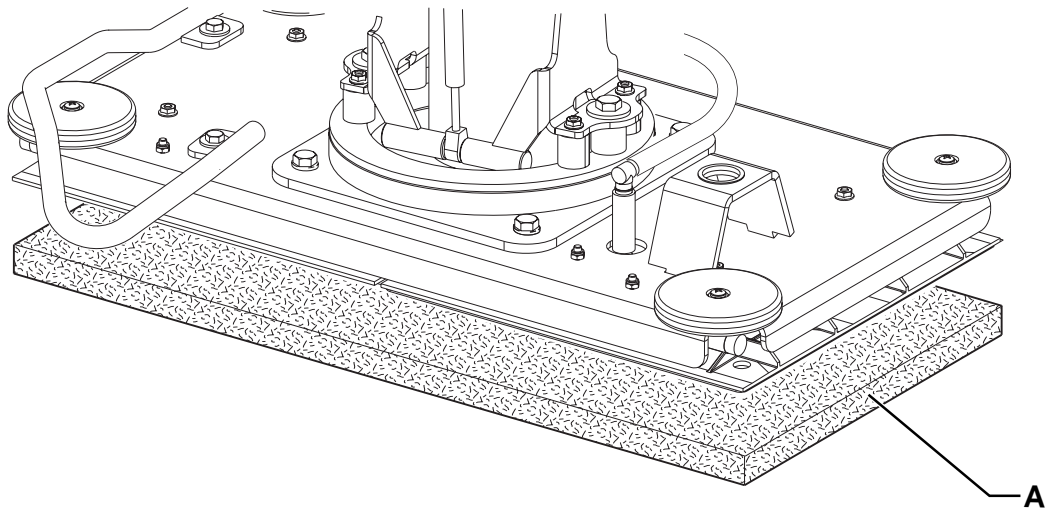

Figure 3
2. Lift the deck by pressing the switch (63).
3. Turn the ignition key (58) to "0" and remove it.
4. Install the pad (A, Fig. 3) so that it engages the plates on the BOOST® deck.